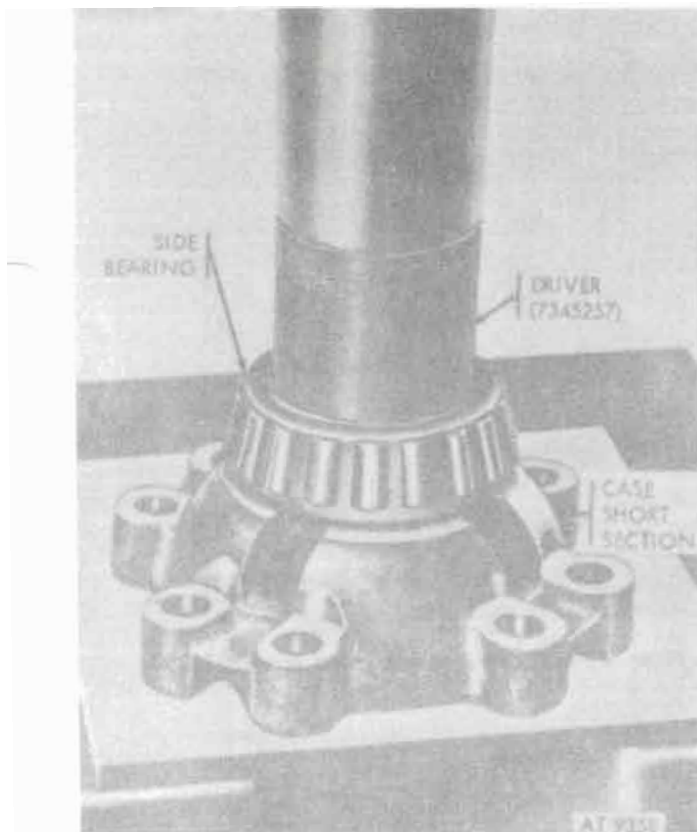

Figure 12-37. Installing side bearing on differential case.
a. Using driver (7345257) and arbor press, press side bearing on case short section (fig. 12-37).
b. Using driver (7345257) and arbor press, press side bearing on long case half (fig. 12-37).